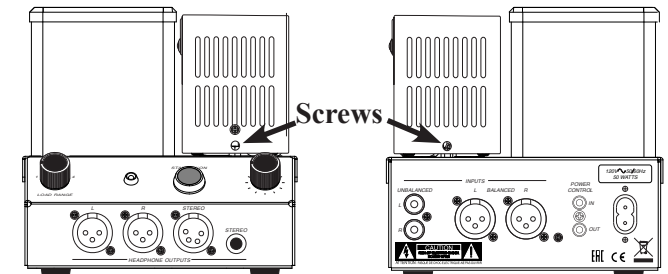

Figure 01– Tube cover screws
- Use a Phillips Head #2 screw driver to remove the two screws that hold the Tube Cover (see Figure 01)
- Replace the two screws to secure the cover to the Tube Cover Retaining Posts (see Figure 01)